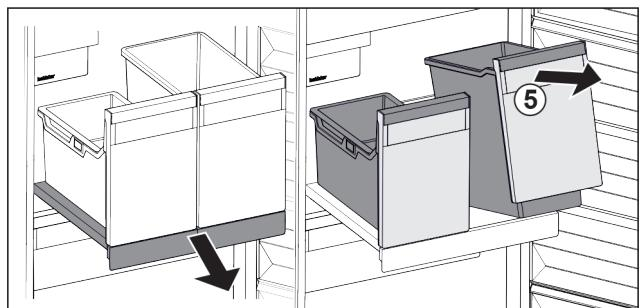

Fig. 99
- ▶ Lift the container Fig. 99 (5) at the front.